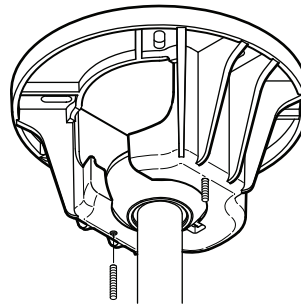

Fig. 10a
3. Screw in two threaded rods into the Hanger Bracket (Fig. 10a).